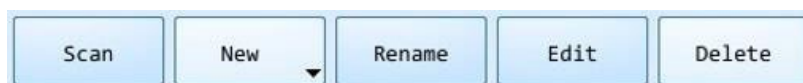

Figure 3.2c Experiment File Interface - File action bar
3. **File action bar** consists of **< Scan >**, **< New >**, **< Rename >**, **< Edit >** and **< Delete >** five function keys, as shown in figure 3.2c.